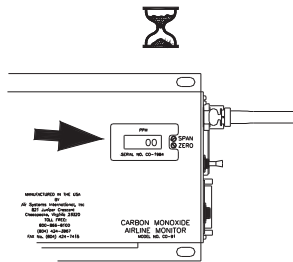

Figure 2
2. Allow 30 seconds for the readout to stabilize (Figure 2). The green indicator light will illuminate on the case.